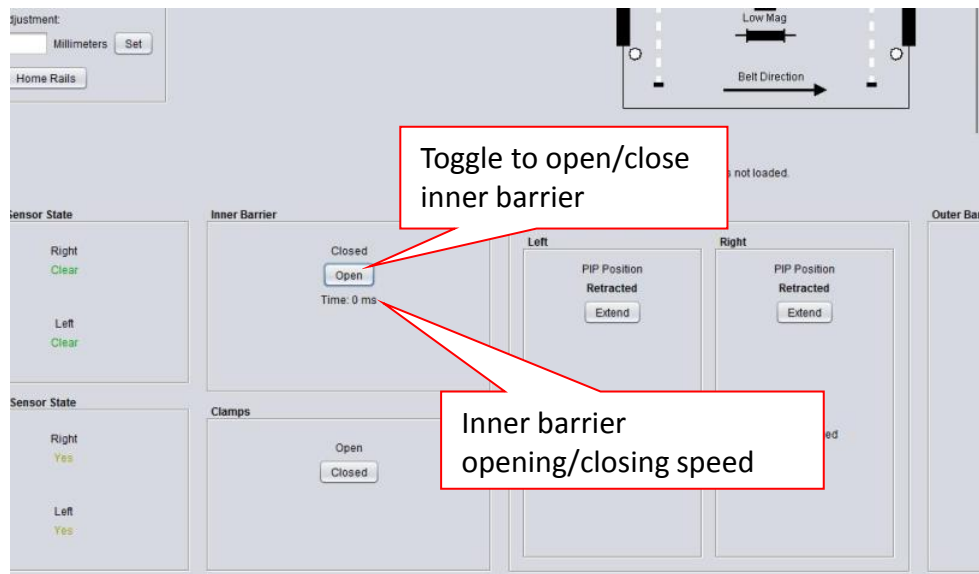

Figure 5 Inner barrier status
9. Go to Panel Handling & Initialize. Manually toggle inner barrier as shown in Figure 5